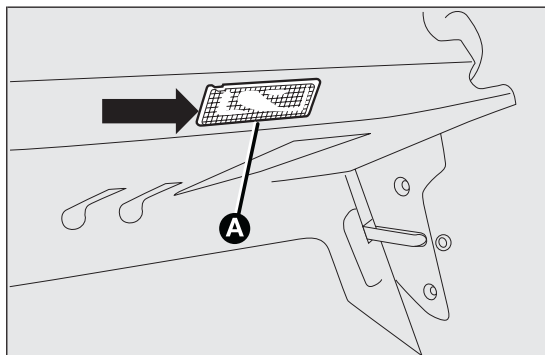

fig. 180
- ❑ remove the light A fig. 180 levering in the point shown by the arrow;